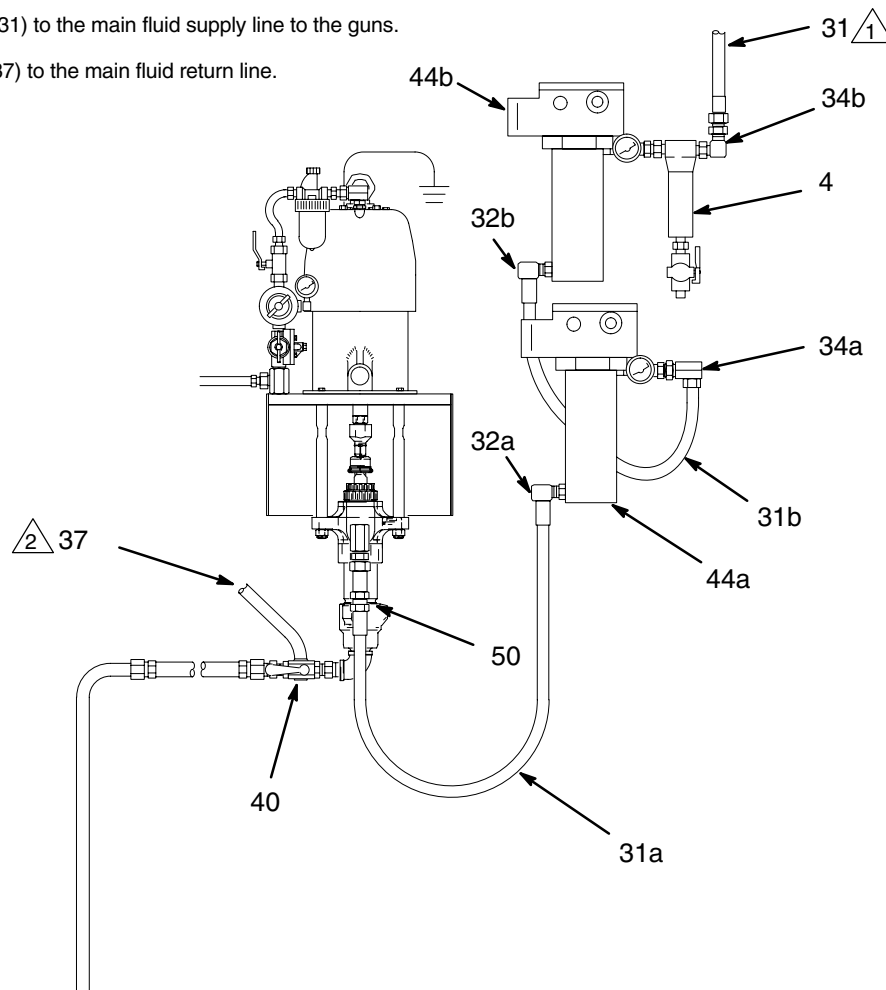

Fig. 4
5. Bring the hose (31a) from the inlet elbow (32a) of the lower heater (44a) and connect it securely to the swivel (50) coming from the pump outlet. See Fig. 4.
7. Bring the fluid supply hose (31) from the swivel (34b) at the fluid filter (4) outlet and connect it to the main fluid supply line to the guns.
8. Bring the fluid return hose (37) from the three-way ball valve (40) and connect it to the main fluid return line.
6. Screw an elbow (32*) onto the lower heater's inlet. Screw the coupler (63) onto the elbow. Attach the heater hose (31*) to the coupler. Connect the other end of the hose to the swivel (50*) coming from the pump outlet.
7. Screw an elbow (32*) onto the upper heater's inlet. Screw the coupler (63) onto the elbow. Attach the second heater hose (31*) to the coupler. Run this hose to the left of and behind the lower heater. See Fig. 4.
8. Install the bushing (62) and a 3/8 npt nipple (33*) in the lower heater's outlet. Screw the rigid end of the union (34*) onto this nipple, and screw the swivel end of the union onto the free end of the second heater hose (31*).